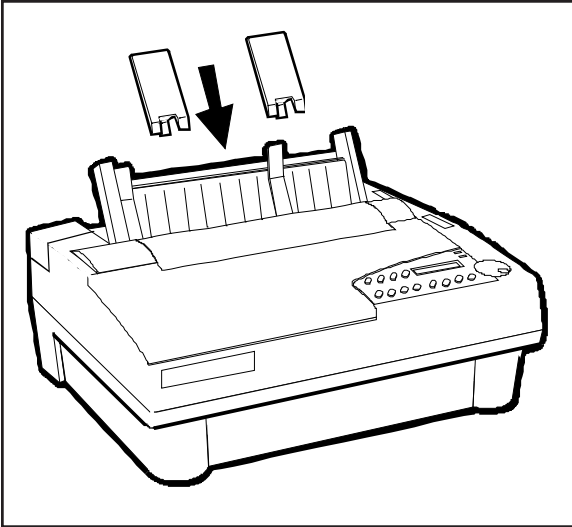

Figure 3-2. Attaching the Support Extenders
2. Raise the paper support. If necessary for long forms, attach the paper support extenders, as shown in figure 3-2.